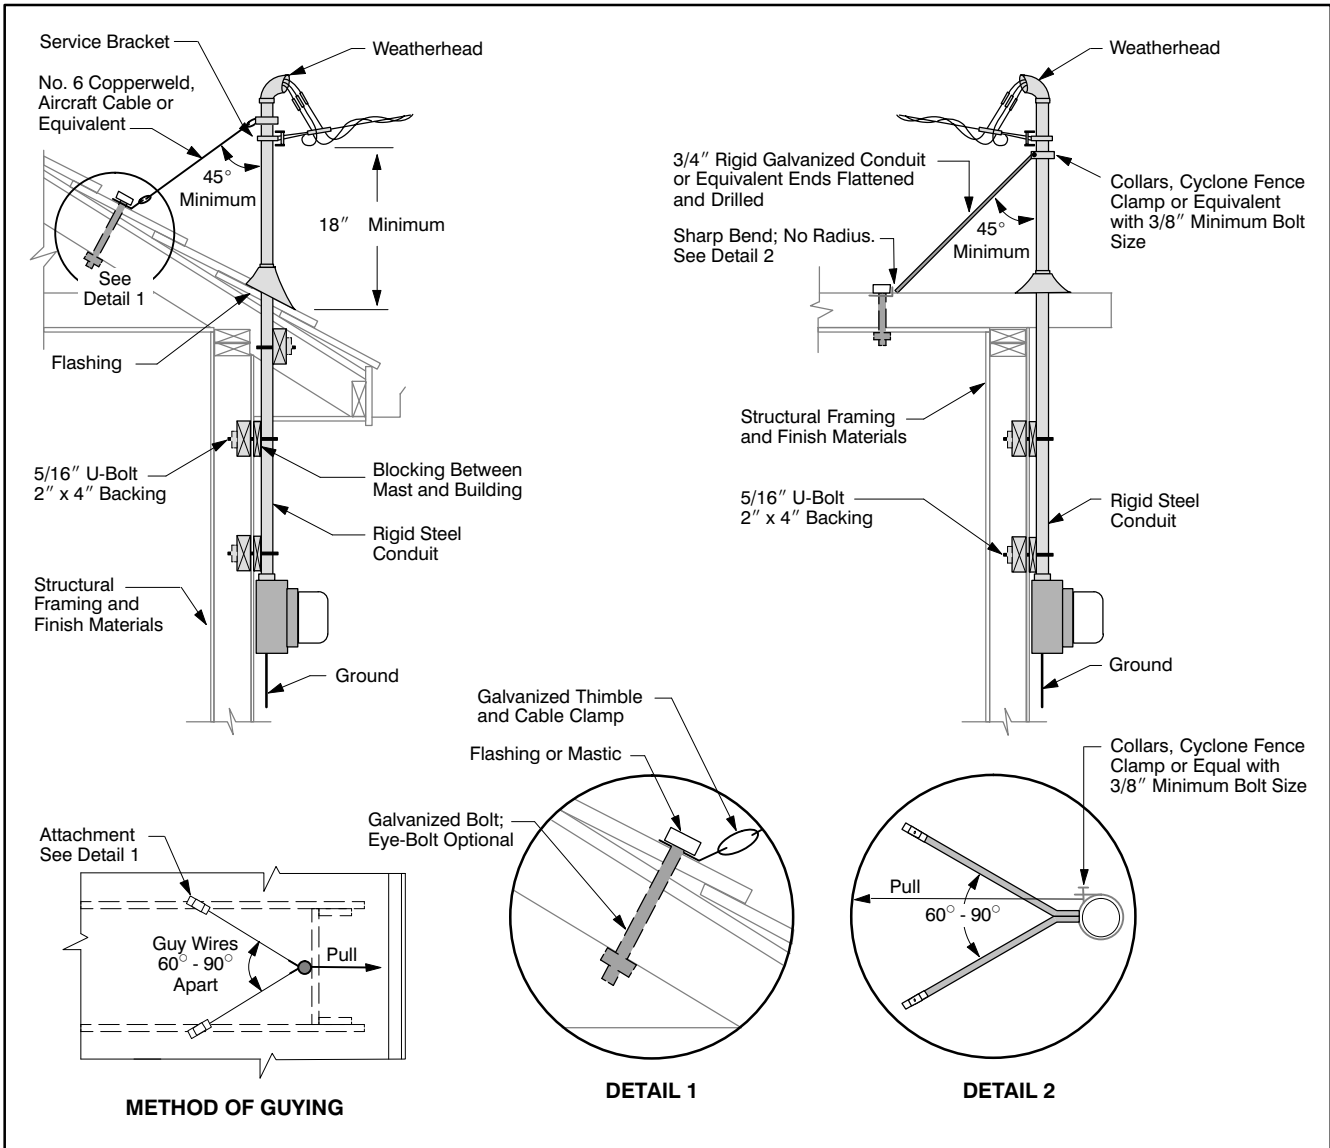

Figure 19 Guyed service masts
- The point of attachment is more than 24 inches above your roof (see *Figure 19*).